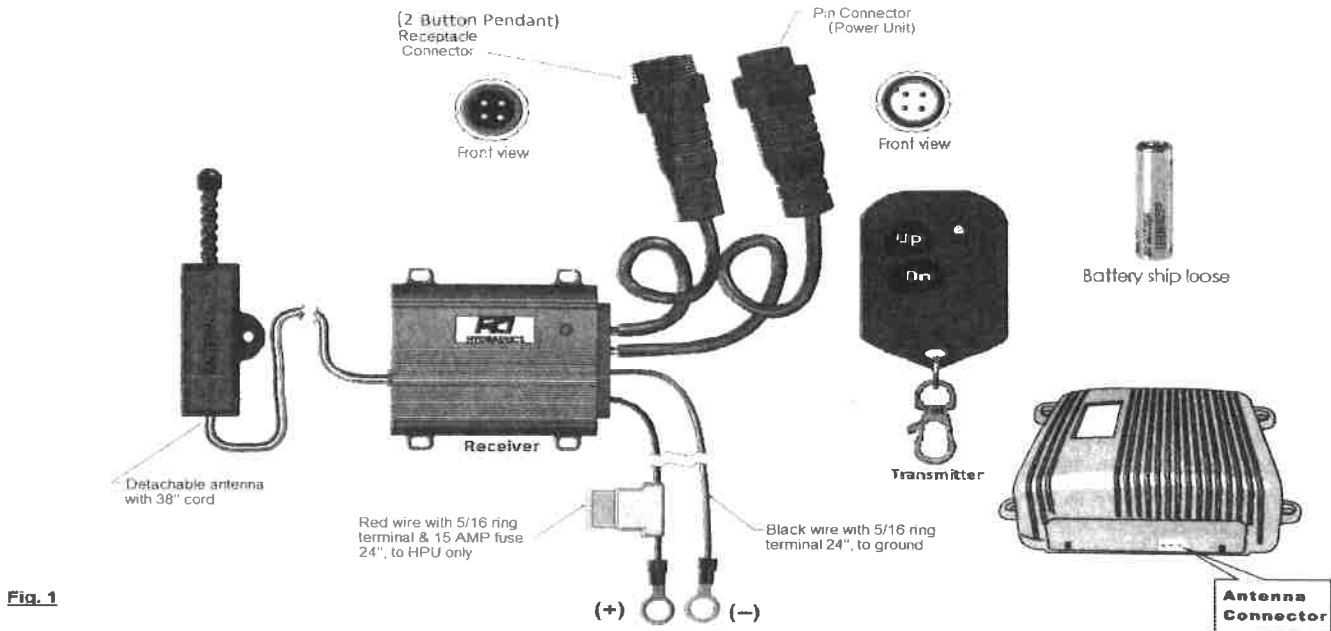

Fig. 1
- 2.) Connect **Pin Connector** to Power Unit. (Fig. 1)
- 3.) Connect positive (**Red Wire**) & negative (**Black Wire**) ring terminal to **Hydraulic Power Units**. (Fig. 1)
- 5.) Connect **Remote Pendant** to **Receptacle Connector** on Wireless Receiver. (Fig. 1)
- b. In Shutdown Mode; (Output 2) the Remote Pendant) is still active. (Fig. 1)